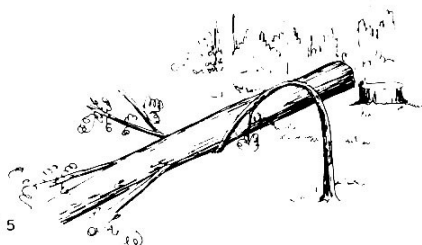

FIGURE 5
12. When cutting a limb that is under tension be alert for spring back so that you will not be struck when the tension in the wood fibres is released. See Figure 5.